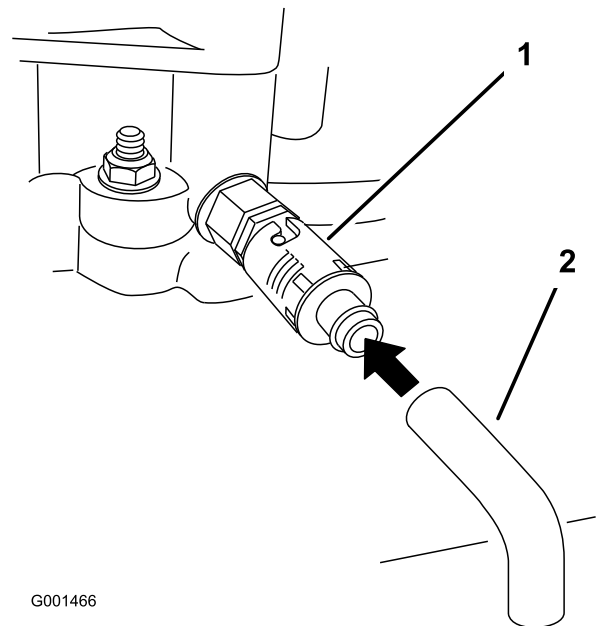

Figure 23
6. Place a pan below the drain hose. Rotate the oil-drain valve to allow oil to drain (Figure 23).
8. Remove the drain hose (Figure 23).